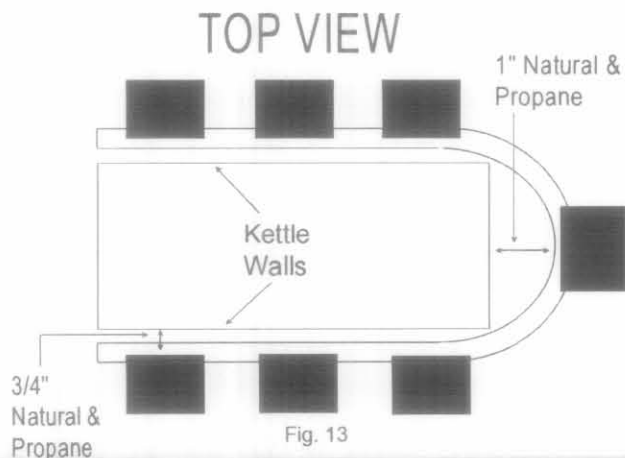

Fig. 13
- Proper alignment of all burner targets should be 3/4 in. between the top edge of the ceramic targets and the wall of the frypot. See Figure 13